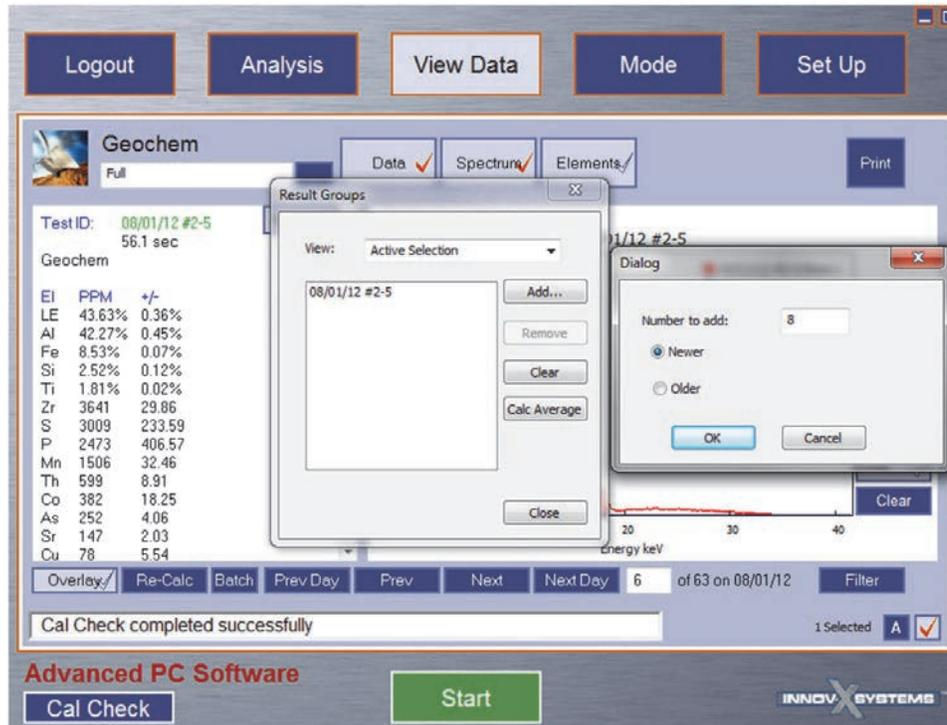

Figure 8-7 Results – Historical selection screens
2. Click the averaging button () to see the result you just chose as the active selection in the **Result Groups** dialog box (see Figure 8-7 on page 110).